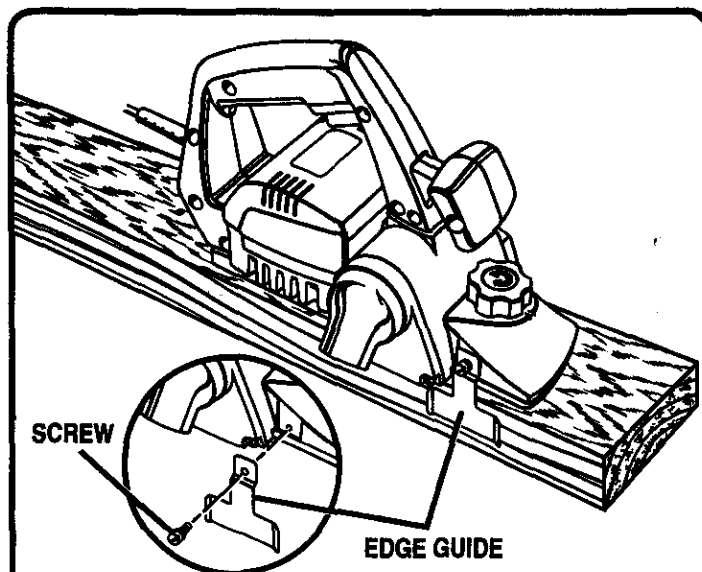

Fig. 7
Packed with your planer to make it a more versatile tool, is an **EDGE GUIDE**, **RABBETING PLATE**, and **DOOR BEVEL FENCE**. See Figures 7, 8, and 9.
See Figure 7.
2. Insert the screw provided through the hole in the edge guide and secure it into screw hole on either side of the main shoe. See Figure 7.